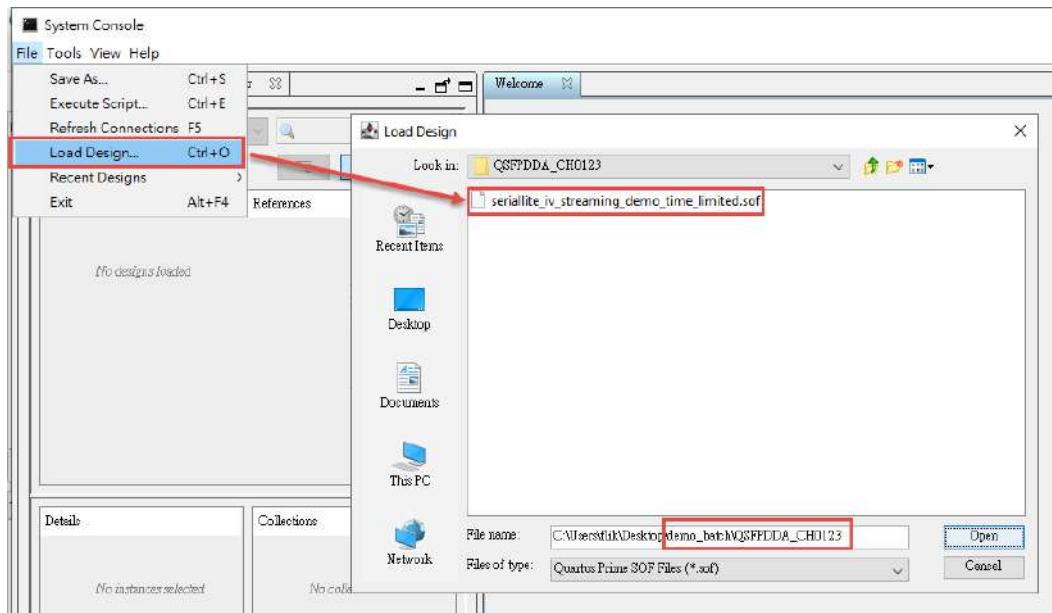

Figure 9-19 Setup QSFP28 or QSFPDD loopback fixture)
5. As shown in **Figure 9-19**, click **Load Design** and select the .sof file for the design example (choose **QSFPDDA\_CH0123** folder in this example) in the System Console.